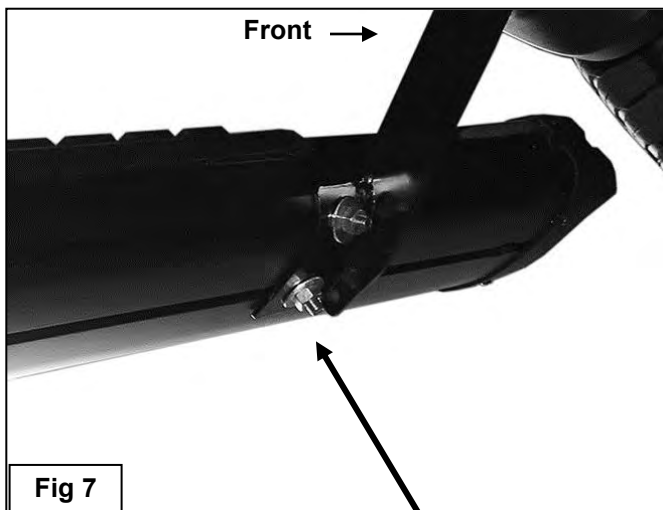

Fig 7
- Line up the front of the Sidebar approximately 2" back, (or locate as desired), from the front wheel opening. Attach the Sidebar to the Mounting Brackets with (6) 8mm Flat Washers, (6) 8mm Lock Washers and (6) 8mm Hex Nuts, **(Figure 7)**. Do not tighten hardware at this time.